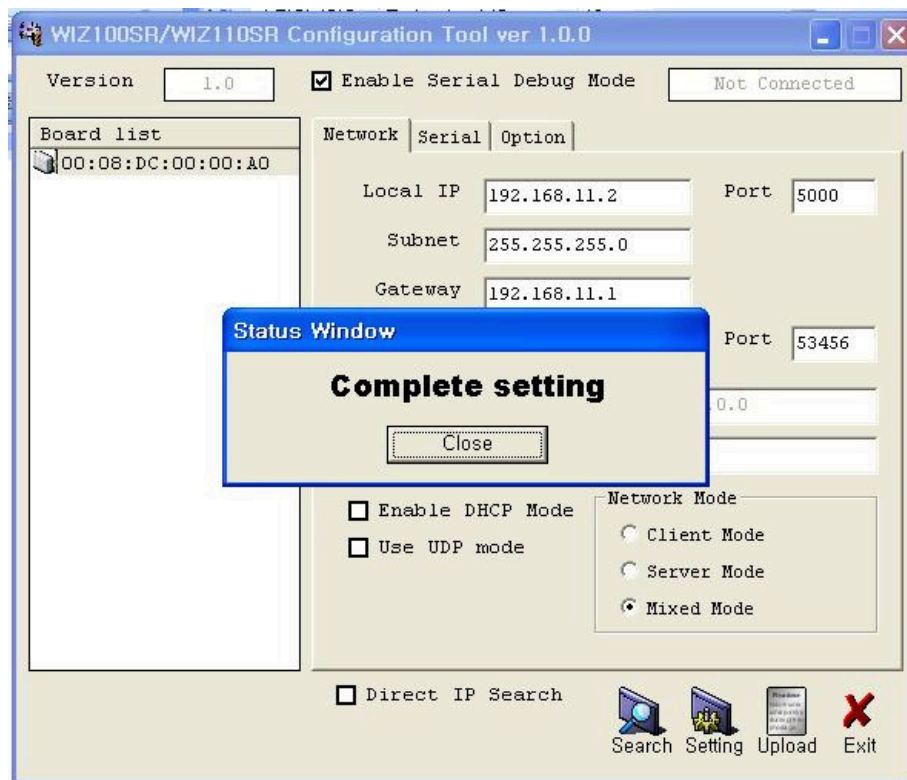

Figure 21. Result Window after Running “Setting”
- ① Make sure the position of the mode switch is normal mode. (If JP4 of the test board is configured as Config mode, the network function is disabled, and the Configuration Tool can not be used.)
- ② Connect the computer and WIZ100SR Test Board by using RS-232.
- ③ Connect the computer and WIZ100SR Test Board by Ethernet cable (Direct or Crossover Cable).
- ④ Power on the WIZ100SR Test Board.
- ① Modules are searched by click search button of the Configuration Tool.
- ② Select the board to be configured and change the value. To apply the changed value, click Setting button.
- ③ If changed value is successfully applied, the "Complete setting" message is displayed as shown in Figure 21.